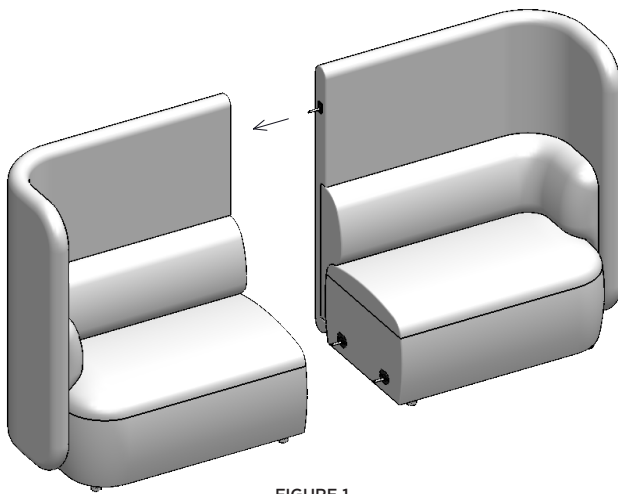

FIGURE 1
3. Align pins with slots on corresponding unit and press together as shown in figure 1 and 2